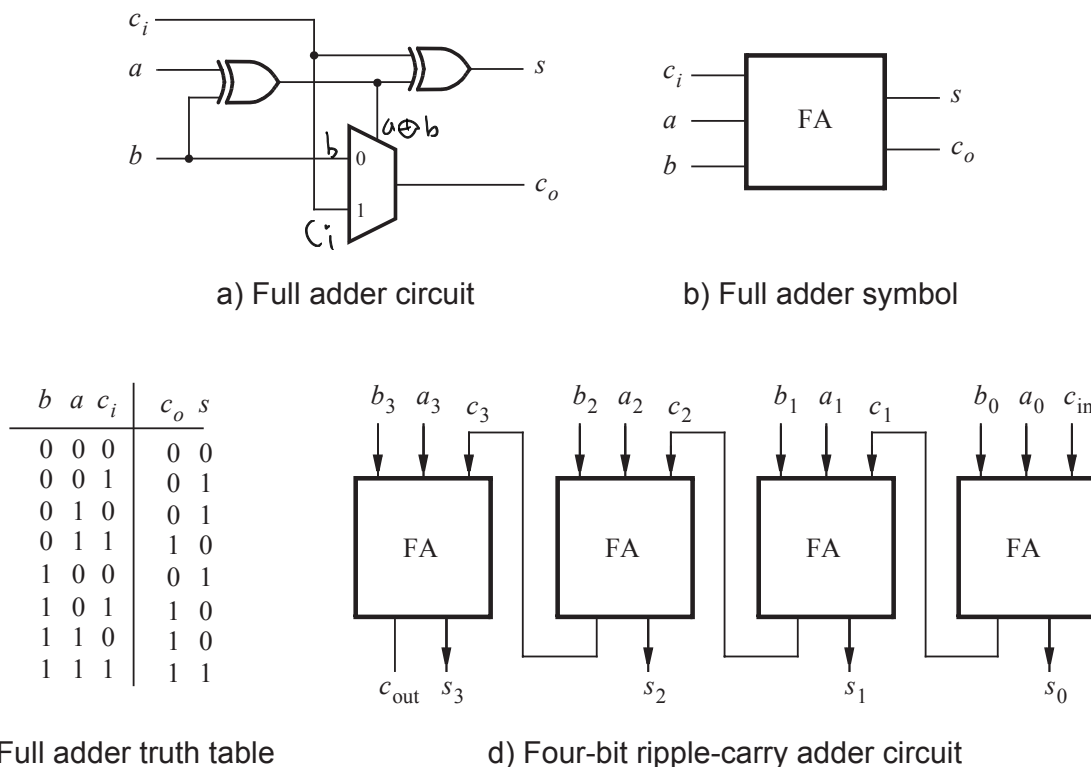

Figure 1: A ripple-carry adder circuit.
Figure 1(a) shows a circuit for a *full adder*, which has the inputs  $a$ ,  $b$ , and  $c_i$ , and produces the outputs  $s$  and  $c_o$ . Parts  $b$  and  $c$  of the figure show a circuit symbol and truth table for the full adder, which produces the two-bit binary sum  $c_o s = a + b + c_i$ . Please note that the  $+$  operator here means addition and not logic OR. Figure 1(d) shows how four instances of this full adder module can be used to design a circuit that adds two four-bit numbers. This type of circuit is called a *ripple-carry* adder, because of the way that the carry signals are passed from one full adder to the next. Write Verilog code that implements this circuit, as described below. Be sure to use what you learned about hierarchy in Lab 2.
1. Draw a schematic showing your code structure with all wires, inputs and outputs labeled. Your schematic should resemble Figure 1(d), though it should also contain module and signal labels, and shows external connections to the switches and LEDs. Be prepared to explain it to the TA as part of your preparation. **(PRELAB)**